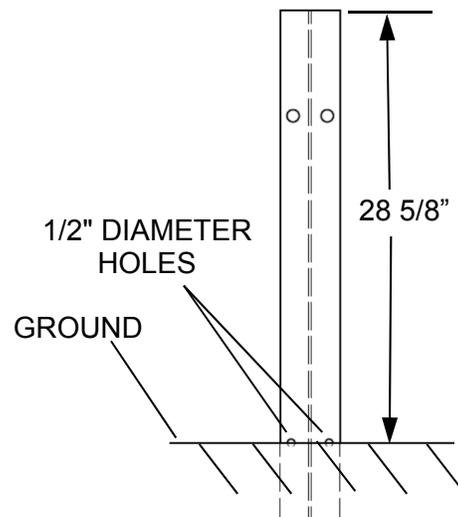

Figure 7 – SYTP® (Post 2) Placement
2.3 Next, place the SYTP® (i.e., Post 2). The top of the post should be approximately 28 5/8" above the ground and the 1/2" diameter holes should be approximately centered on ground line (Figure 7 on p. 17).